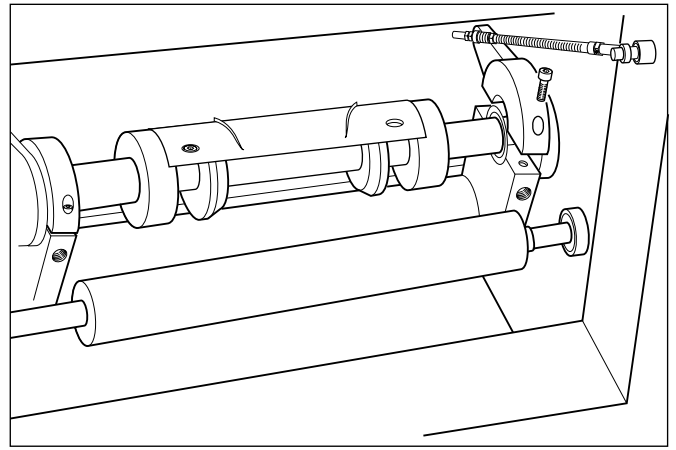

Fig. 9
- 1 Check to make sure that the cutting area on the cutting tool is in the upper position, see fig. 9 and 10.